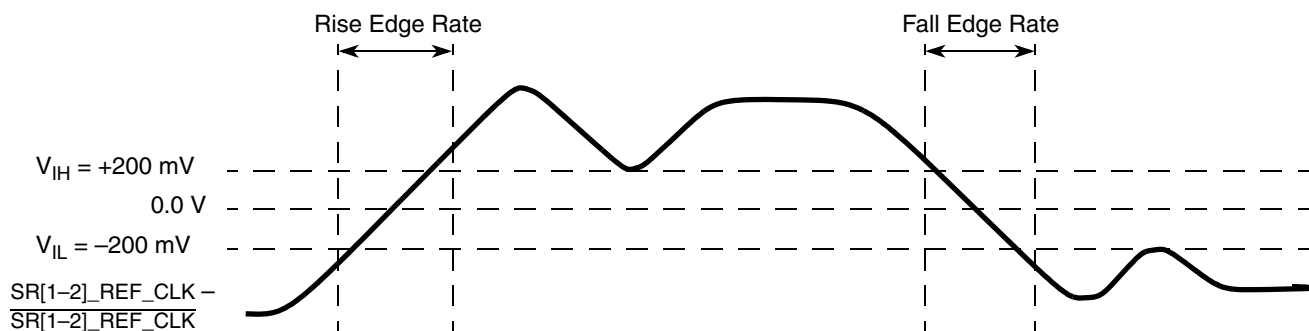

Figure 16. Differential Measurement Points for Rise and Fall Time
3. Measured from –200 mV to +200 mV on the differential waveform (derived from SR[1–2]_REF_CLK minus $\overline{\text{SR}}[1–2]_{\text{REF_CLK}}$). The signal must be monotonic through the measurement region for rise and fall time. The 400 mV measurement window is centered on the differential zero crossing. See Figure 16.